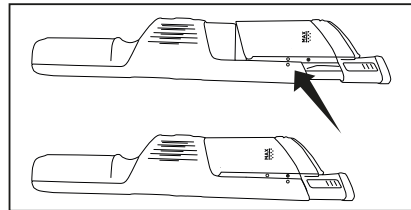

Fig. 6
5. Align the markings on the dust bin and the vacuum (Fig. 6) then slide until it clicks into place.